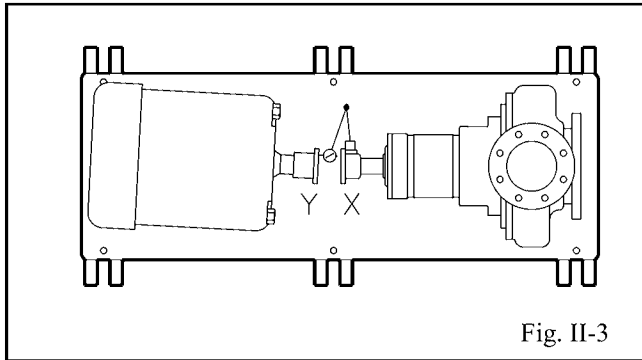

Fig. II-3
3. **Positive Reading** - The coupling halves are closer together on the right side than the left. Correct by either sliding the shaft end of the driver to the right or the other end to the left (Fig. II-3).